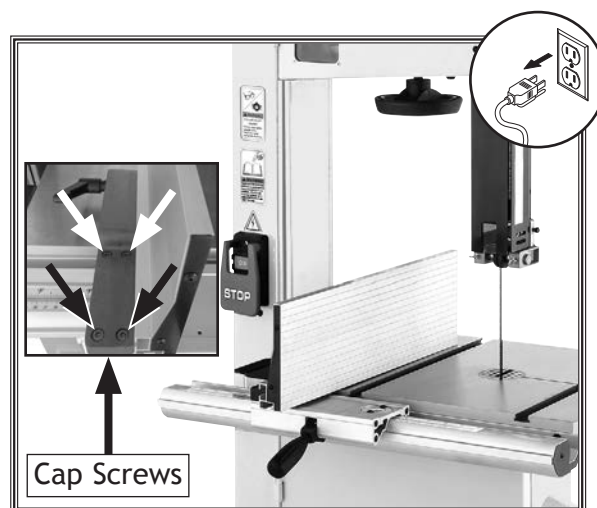

Figure 63. Fence installed next to miter slot for alignment adjustment.
3. Install fence next to miter slot (see **Figure 63**).
4. Loosen four cap screws located to the left of fence face (see **Figure 63**).